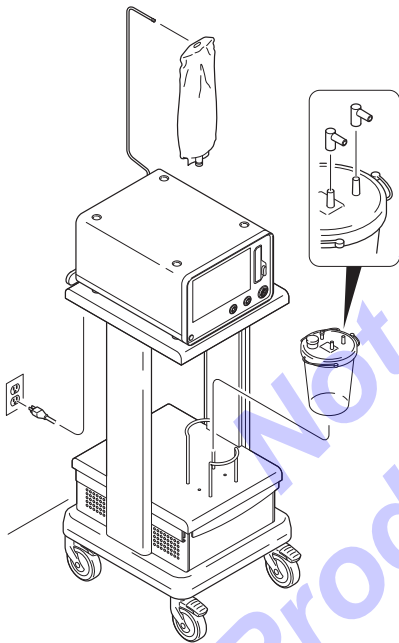

Figure 72 – Console Preparation
1. Put the console on a flat, sturdy surface near a hospital-grade power receptacle with protective earth ground (Figure 72).
1. Put the suction canister into the holder on the Sonopet cart (Figure 72).
Suspend a collapsible irrigation fluid container (bag) from the console Irrigation pole (Figure 72).